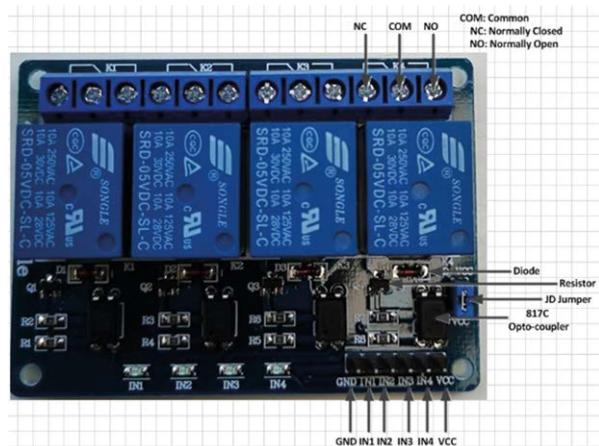

Figure 7.2: 4-channel relay board.
Circuit Diagram: In this project a 4-channel relay board (see Figure 7.2) from Elegoo (www.elegoo.com) is used. This is an opto-coupled relay board having four inputs, one for each channel. The relay inputs are at the bottom right-hand side of the board while the relay outputs are located at the top side of the board. The middle position of each relay is the common point, the connection to its left is the normally closed (NC) contact, while the connection to the right is the normally open (NO) contact. The relay contacts support 250V_{AC} at 10 A and 30 V_{DC} 10 A. IN1, IN2, IN3 and IN4 are the **active LOW** inputs, which means that a relay is activated when a logic LOW signal is applied to its input pin. Relay contacts are normally closed (NC). Activating the relay changes the active contacts such that the common pin and NC pin become the two relay contacts and at the same time the LED at the input circuit of the relay board corresponding to the activated relay is turned ON. The V_{CC} can be connected to either +3.3 V or to +5 V. Jumper JD is used to select the voltage for the relay. **Because the current drawn by a relay can be in excess of 80 mA, you must remove this jumper and connect an external power supply (e.g. +5 V) to pin JD-VCC.**